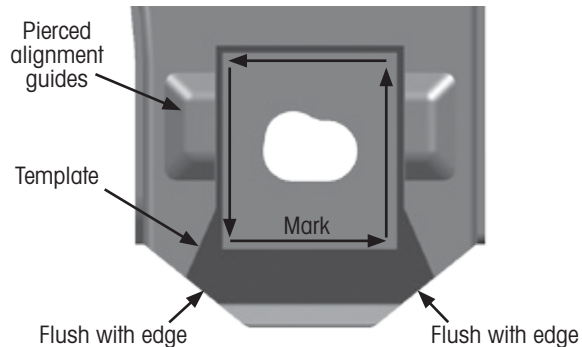

Figure 3: Positioning template on frame bracket, outboard side
6. Completely **remove and clean** all surface coating from the areas to be patched. Refer to Figure 3 and Figure 4.
1. Horizontally **center and vertically position** template to the plate to be repaired as shown in Figure 3.